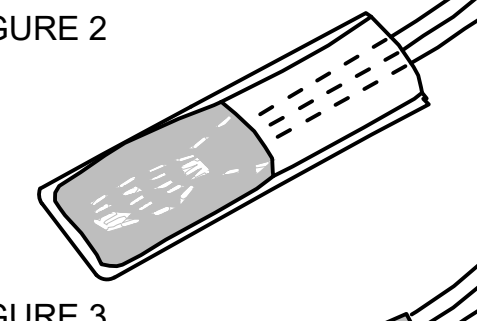

FIGURE 3
- 7 SLOWLY INSERT CONNECTION INTO SEALING PACK UNTIL IT FITS SNUGLY AGAINST THE OPPOSITE END. (FIGURE 3)